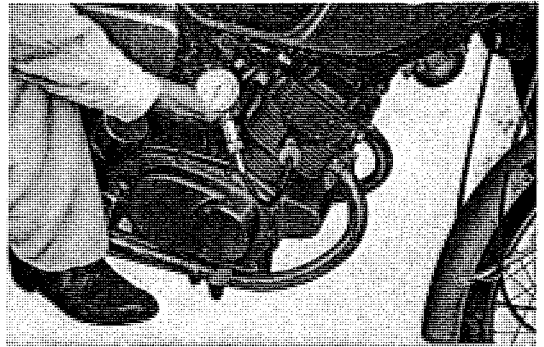

Fig. 6.5 Correct compression pressure
- (1) If the throttle and choke are not wide open, the amount of pressure registered on the gauge will be small and not representative.
- (2) The registered pressure will increase with every kick of the starter. The pedal should be kicked until the compression gauge registers a maximum reading.
- (3) Make sure that the engine is warm when gauging the compression, otherwise the indicated pressure will not be true compression.
- e. The compression pressure should be from (128 to 149 psi) 9.0 to 10.5 kg/sq.cm. **(Refer to Fig. 6.5)**